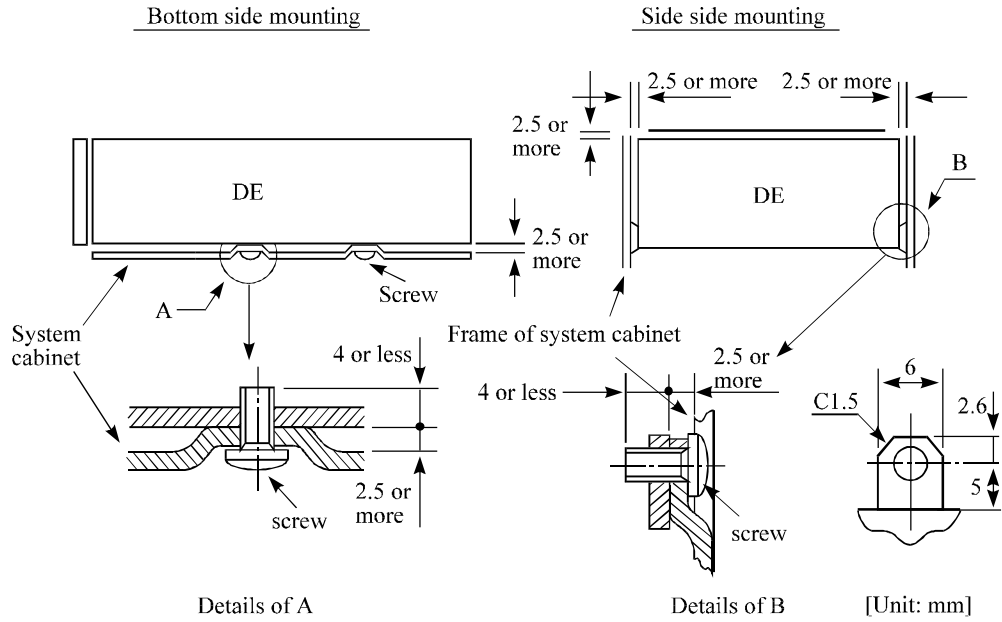

Figure 4.6 Mounting frame structure
- b) As shown in Figure 4.6, the inward projection of the screw from the IDD frame wall at the corner must be 4 mm or less.